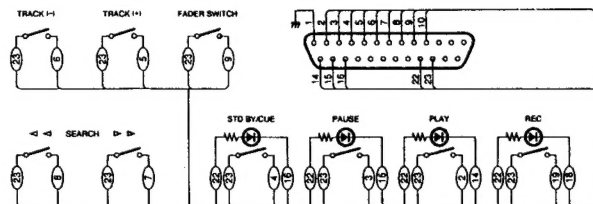

Figure 8
- To use this unit remotely, connect the remote connector (REMOTE) with the remote control circuit using a 25-pin Dsub cord. Refer to the example of the remote control circuit in Figure 8.